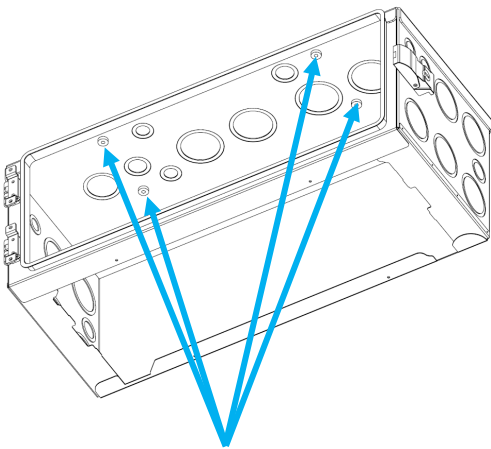

Figure 2 –Screw Install Location
Step 2: If installing the WallMount along with the 12 or 18kPV inverter, please use the 4 threaded inserts on the top side of the conduit box to secure it to the inverter as shown in **Figure 2**. The screws needed are included with the 12 or 18kPV.